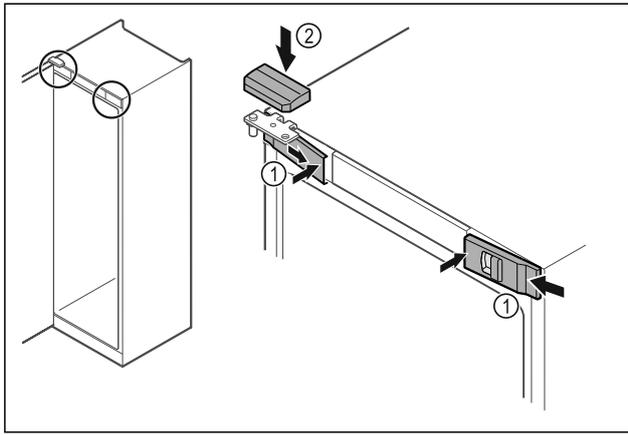

Fig. 36
- ▶ Hook in the front covers Fig. 36 (1) on the side and snap them into place on the inside.
- ▶ Snap on the top cover Fig. 36 (2) from above.